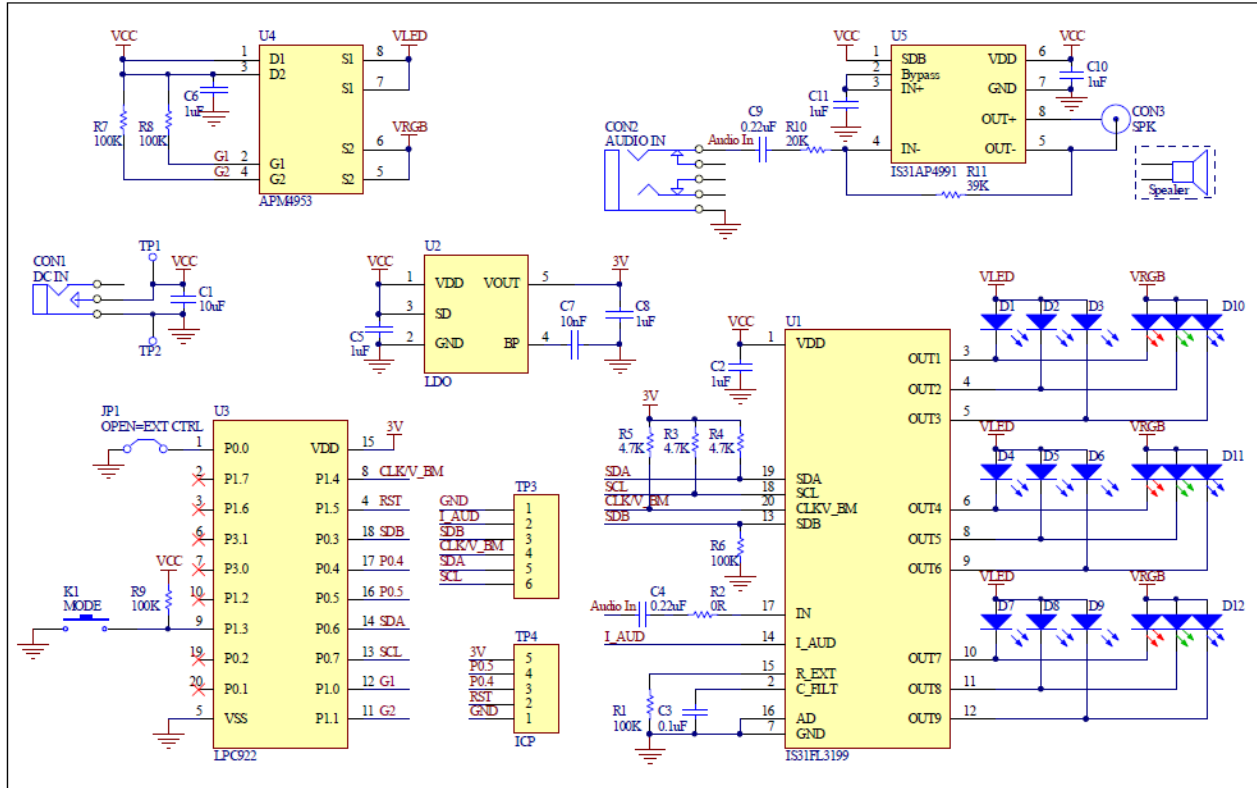

Figure 9: IS31FL3199 Application Schematic
*Bill of Materials, refer to Figure 9 above.*